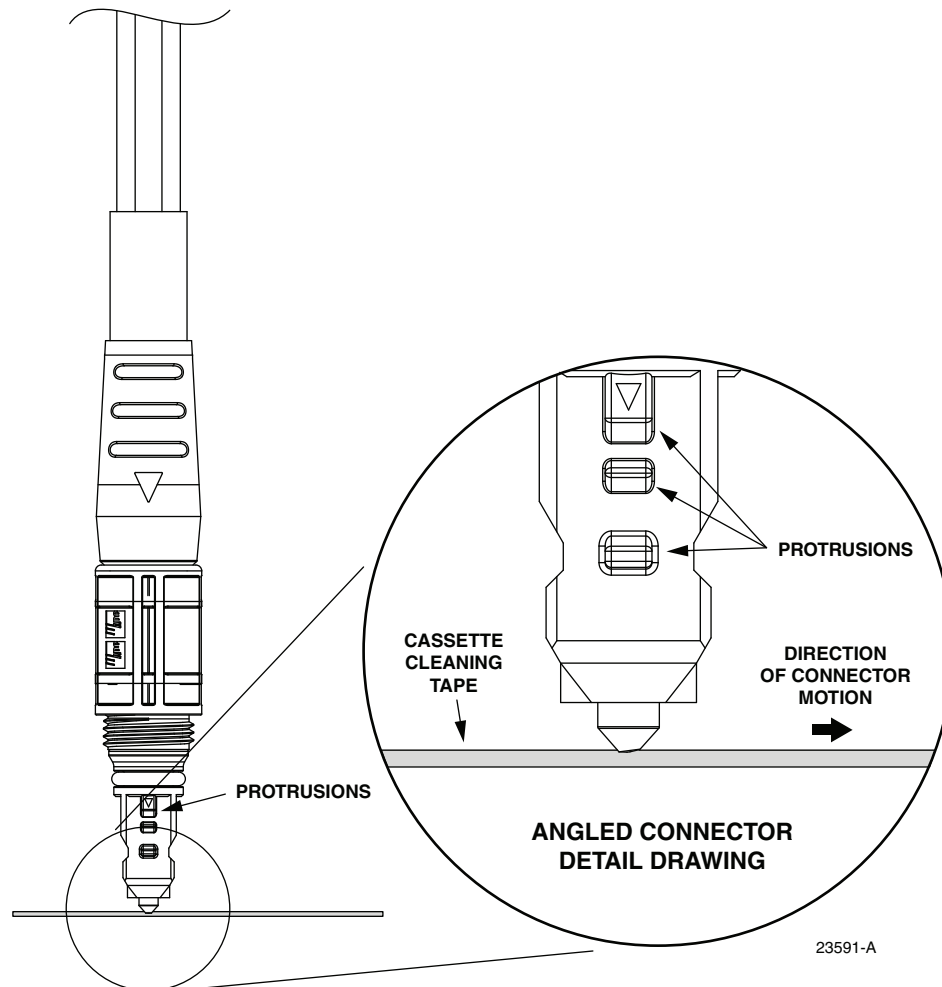

Figure 8. Angled Connector End-Face Detail
2. Examine the end of the drop cable connector and determine which is the high side and which is the low side of the connector end-face as shown in Figure 8.